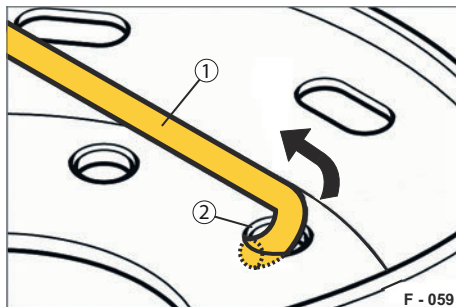

Fig. 93 Removing the hook bolt
- ▶ Pull the hook bolt (Fig. 93/1) upward through the bolt holes (Fig. 93/2) of the spare wheel.
- ▶ Lead the hook bolt (Fig. 93/1) through the pin hole (Fig. 93/2) of the spare wheel.